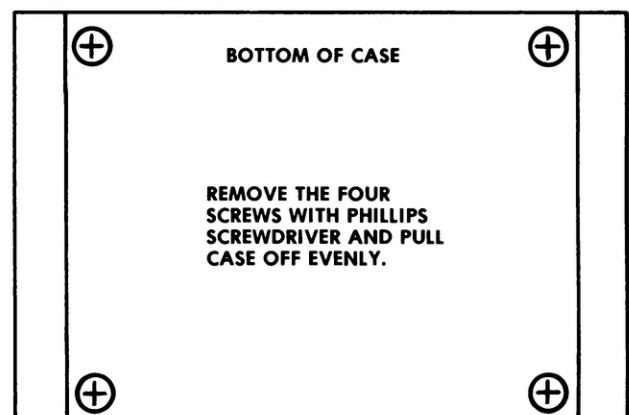

Figure 5-2. Removing The Case
3. Remove the four screws (Figure 5-2) holding the cabinet feet to the case.